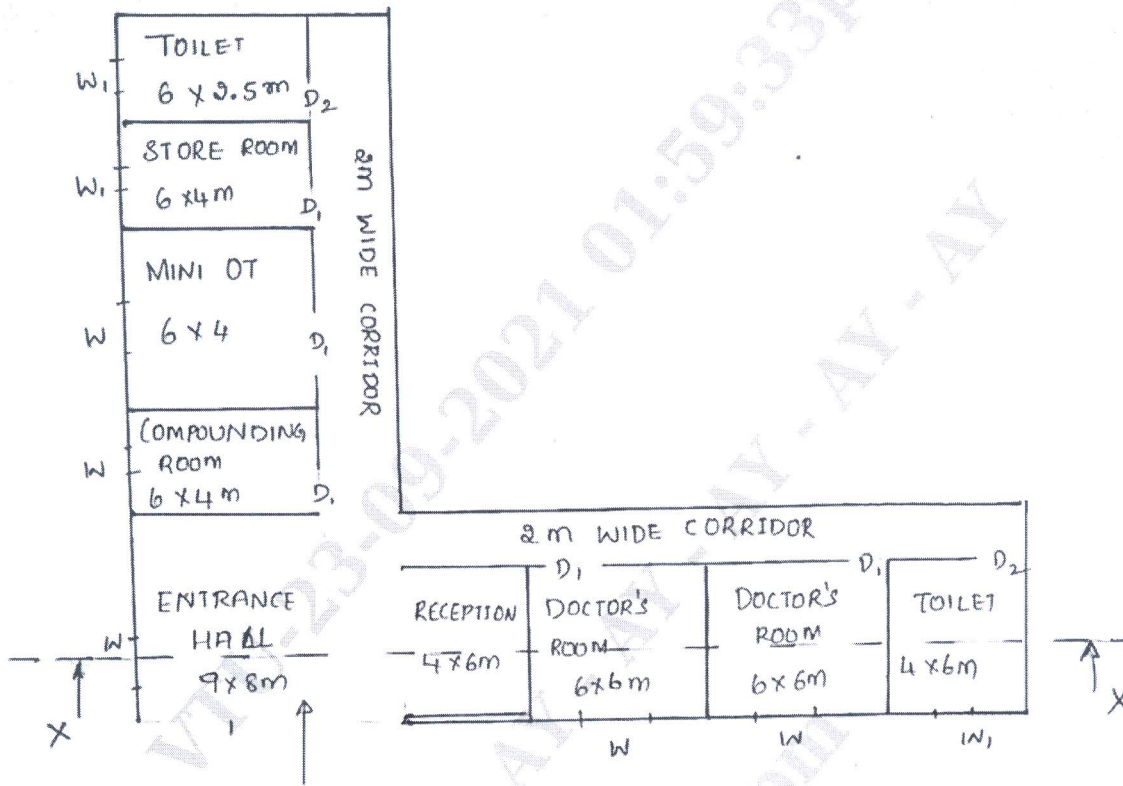

Figure Q5
- Q5 Line diagram of Hospital building is given in **Figure Q5**. Draw to scale the following: